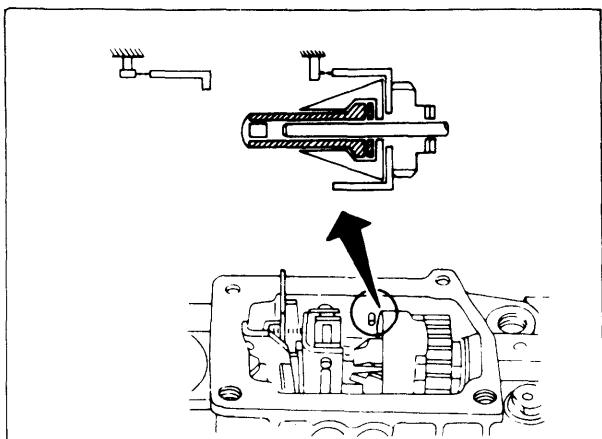

Fig. 13
Using a thickness gauge measure the clearance between the flyweight holder end face and the stopper pin (marked in Fig. 13.) Adjust the clearance using the shim [(110) in Fig. 25] at the back of the governor flyweight assembly.